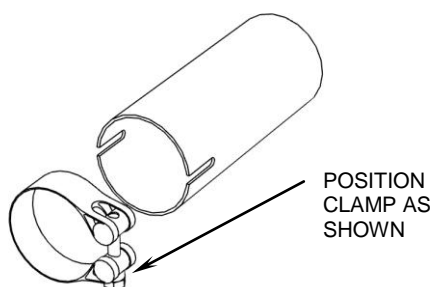

FIGURE 3
6. Place the supplied 27-61msc clamp onto the lower muffler inlet then slide the rear headpipe / muffler assembly onto the front headpipe and into the rear exhaust port. Bolt rear headpipe onto the rear cylinder using the stock nuts from Step 1 but **DO NOT TIGHTEN**. See Figure 3 for clamp orientation.
11. To install the front heatshield, first slide the rear portion of the heatshield over the muffler, continue to slowly slide it forward pushing the front of the shield gently into place between the frame and motor (Hint: Spread the hose clamps apart slightly to make it easier to slide them over the muffler assembly and headpipes). Make sure the muffler clamp doesn't interfere with the heatshields and is aligned as shown in Figure 3. Snug the heatshield clamps but **DO NOT TIGHTEN**.